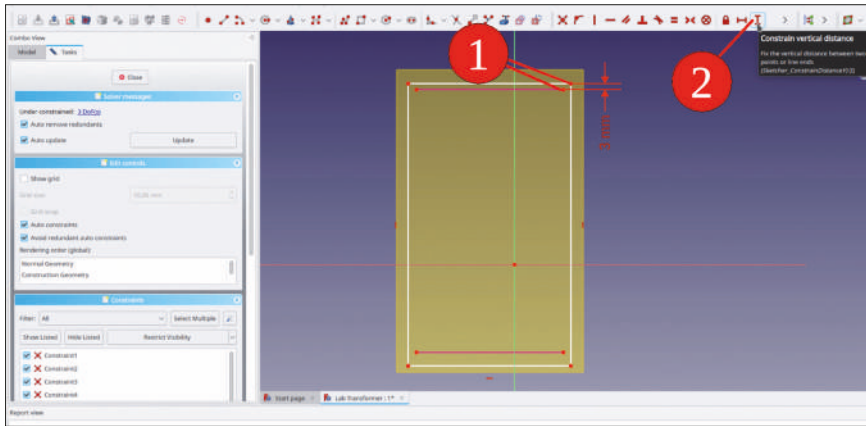

Figure 9-111
11. Draw a rectangle. The cover should overlap to the front and back side somewhat. Mark a corner of the top reference line and the corresponding corner of the rectangle. Constrain the vertical distance to 3 mm (Figure 9-111).